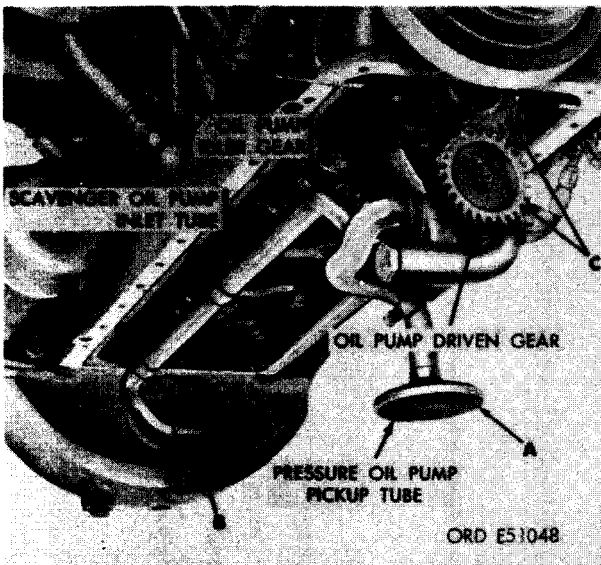

FIGURE 200. INSPECTING OIL PUMP PICKUP TUBE SCREENS AND PUMP GEARS.
- (3) Figure 200. (A) Check oil pressure pump pickup tube screen for dirt and foreign material. Screen must not be plugged or broken. (B) Check scavenger oil pump pickup tube screen for dirt and foreign material. Screen must not be plugged or broken. (C) Check oil pump driven gear and idler gear for evidence of wear, scored teeth, or other damage.